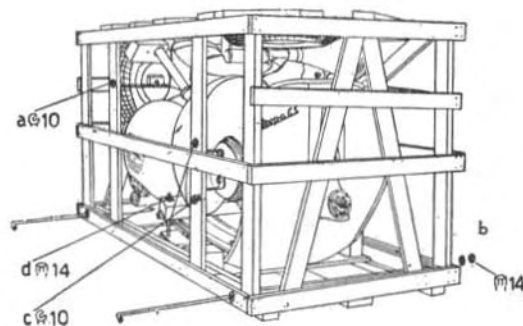

Fig. 18 - Cage.
- Unscrew nuts « a » and « b » (see Fig. 18), slide off respective bolts or rods, lift off the cage top, seeing that the frame or mudguard are not bumped nor scratched.